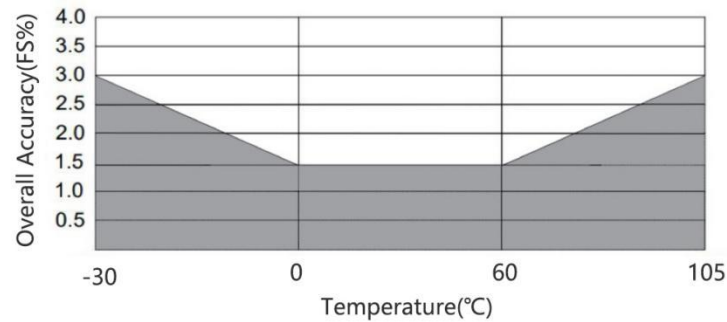

Fig.4 Relationship between overall accuracy and temperature
- (1) Pressure drift: The output deviation between the actual output voltage at zero point and full scale and the specified output voltage within the specified pressure range.
- (2) Temperature effect: The output deviation of zero point and full scale at different temperatures within the temperature range.
- (3) The overall accuracy is expressed by an error band, which consists of three line segments. The data are shown in Figure 4 and Table 2.